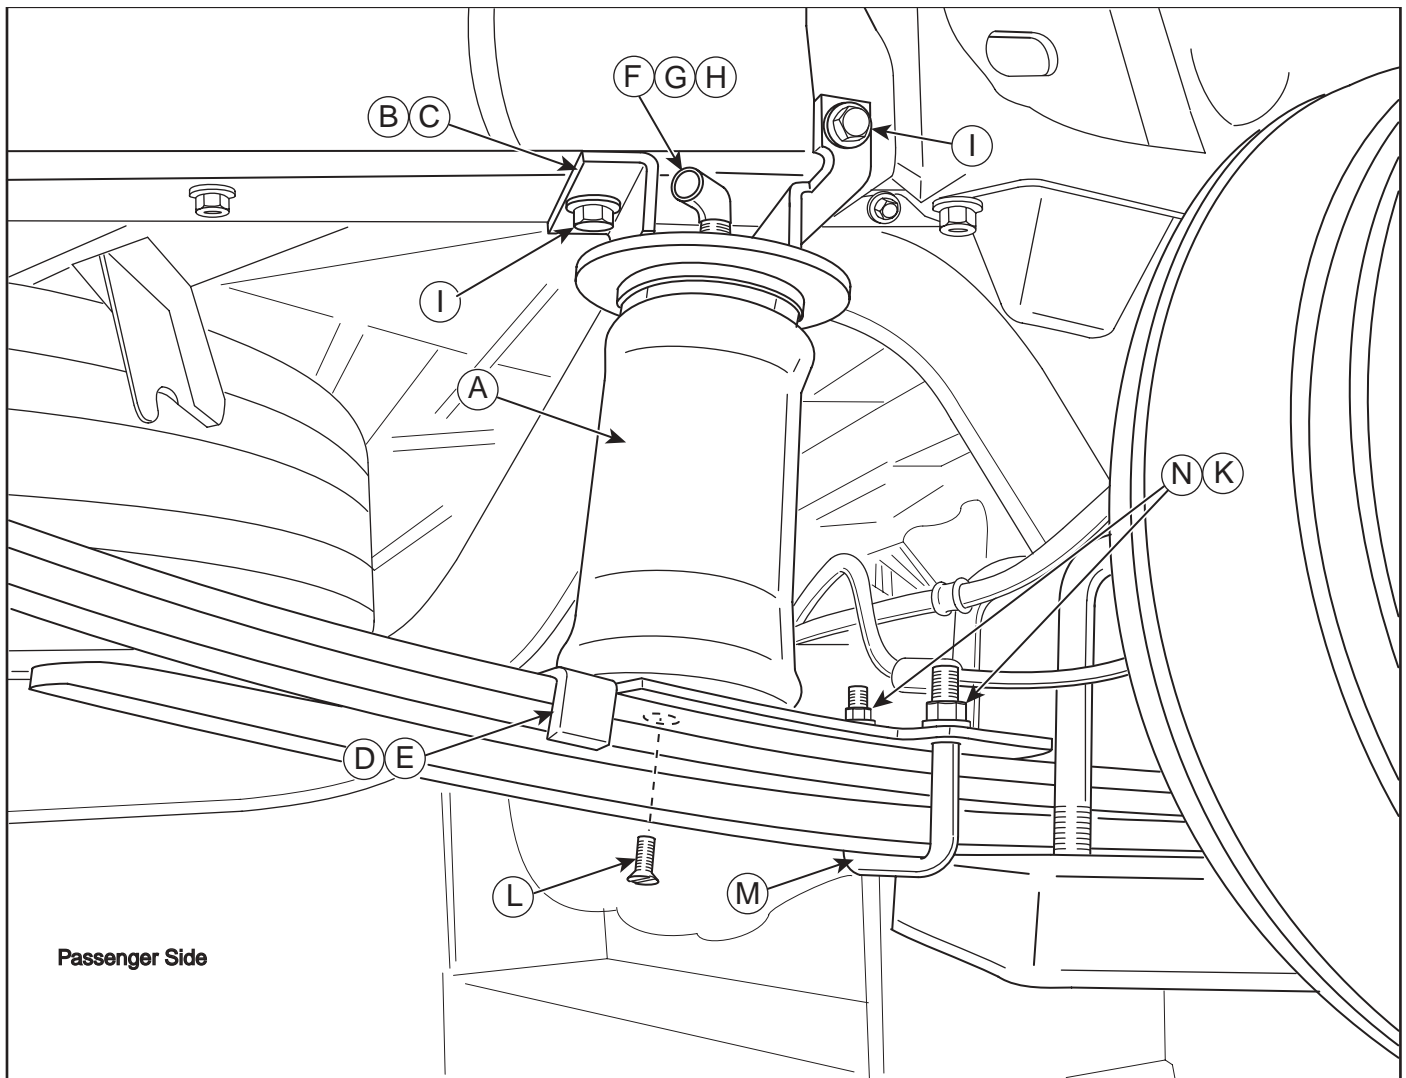

Figure 1
3. Set the brackets on the frame behind the axle as shown (Figure 1 & 2). Clamp the brackets to the frame with vise grips or welding clamps.
5. Attach both brackets to the frame with the supplied (4) four  $\frac{3}{8}$ "- $16 \times 1\text{-}1/2$ " bolts (I), large flat washers (J) and nyloc nuts (K) (Figure 1).
3. Attach the lower brackets to the leaf spring with supplied U-bolts (M), flat washers (N) and nyloc nuts (K) (Figure 1).